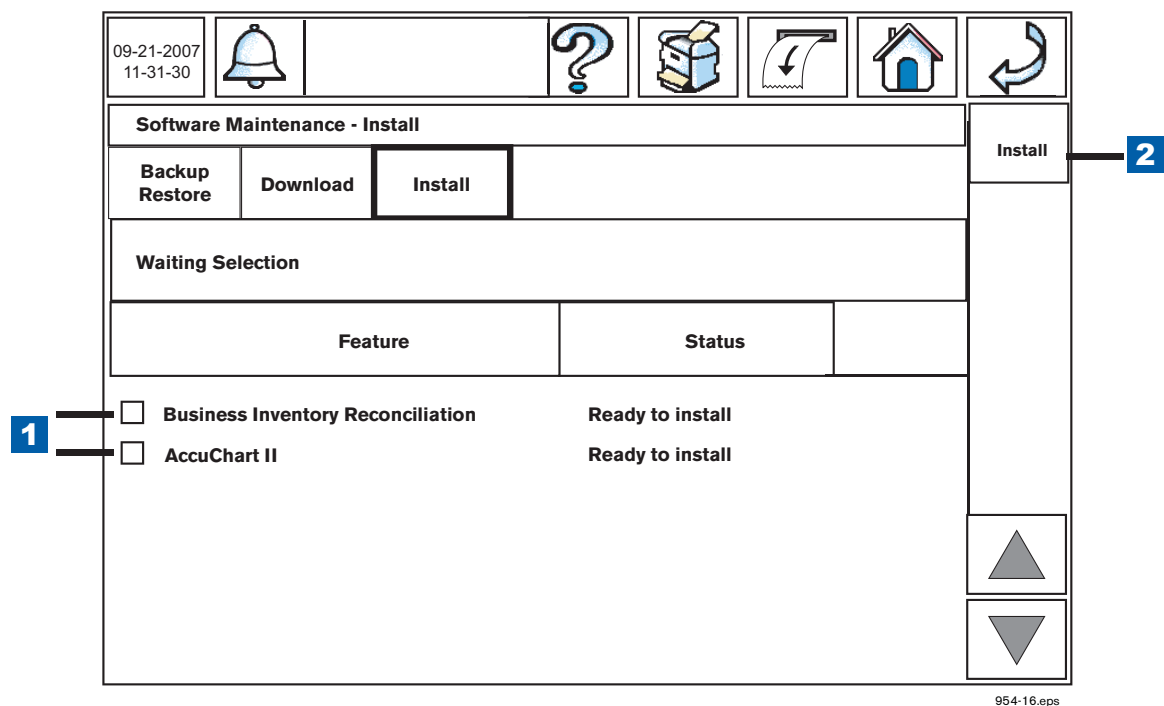

Figure 16. Installing Software Features
- 5. Once the download process completes, touch the Install tab. Touch the check boxes beside the feature(s) you wish to install (item 1s in Figure 16). Once you have selected the desired features to install, touch the Install button (item 2 in Figure 16).
LEGEND FOR NUMBERED BOXES IN Figure 16